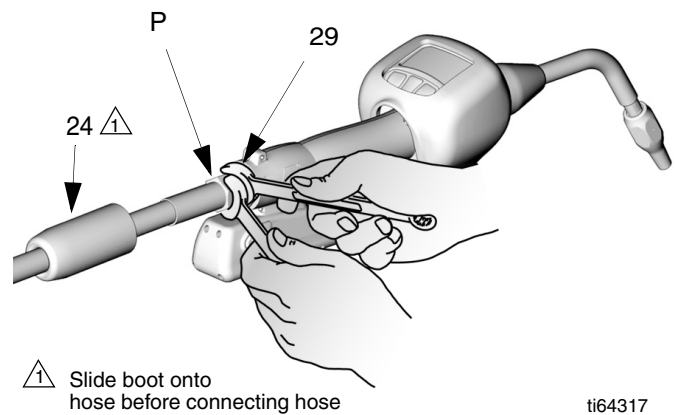

FIG. 8
1. Slide the rear boot (24) onto the hose. See FIG. 8.
3. Thread the hose fitting into the swivel (29) of the meter, and tighten it firmly. See FIG. 8.
4. Slide the rear boot (24) over the fittings and onto the end of the Matrix meter.